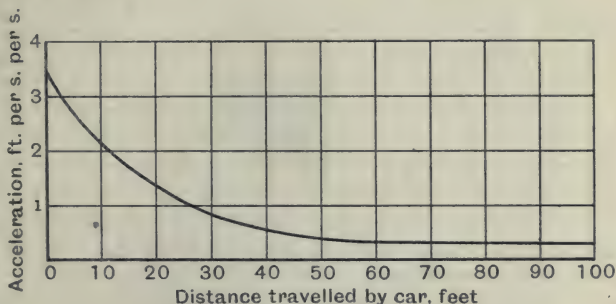

Fig. 134.
**66.** An electrically propelled car is fitted with a recording accelerometer, the drum of which is driven by gearing connected to the wheels. The record traced in starting the car from rest is shewn in fig. 134. Find the velocity of the car after 5 seconds and the horse-power per ton which is then being expended in acceleration.